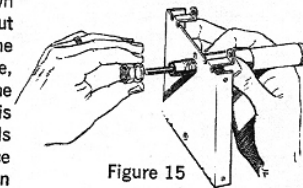

Figure 15
5. Remove nut and washer from the new tube assembly. Insert nipple and tube through hole in baffle plate, as shown in Figure 15. Replace washer and nut but before tightening be sure that the spline, protruding from the baffle plate, engages the notch at the top of the tube metal jacket. When the nut is tightened, the end of the nipple threads should be flush with the outer surface of the nut. If necessary, the nipple can be threaded in or out of the jacket to achieve this adjustment. When these things are done tighten nut firmly.